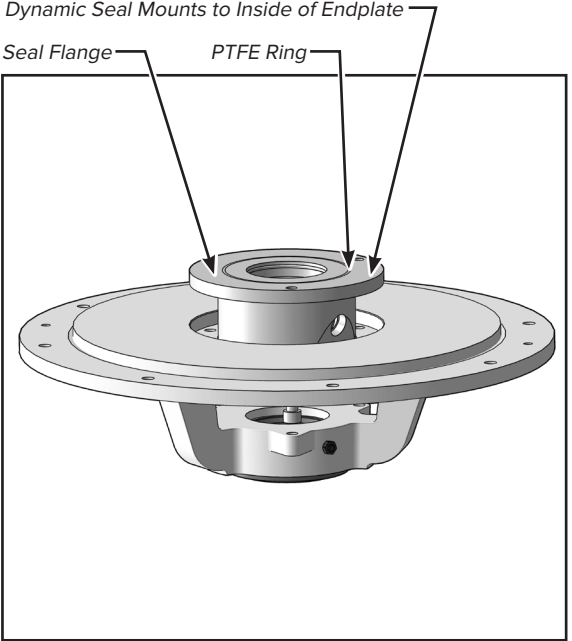

FIGURE 21
- 10. Remove the dynamic seal from the endplate (figure 21).
- 13. Install new or rebuilt dynamic seal from the inside face of the endplate. Verify that O-rings are in place for both shaft (inner diameter) and the gland O-ring that forms the seal on the inside face of the endplate. Lightly lubricate each O-ring to prevent damage or rolling during assembly. **Insure PTFE ring is properly seated and flush with seal flange** before continuing installation (figure 21).